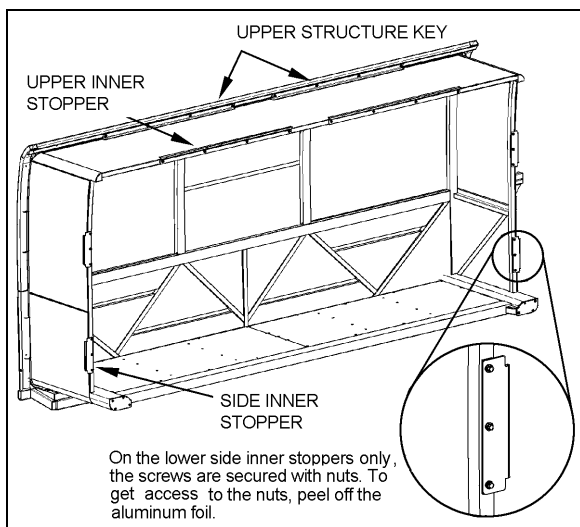
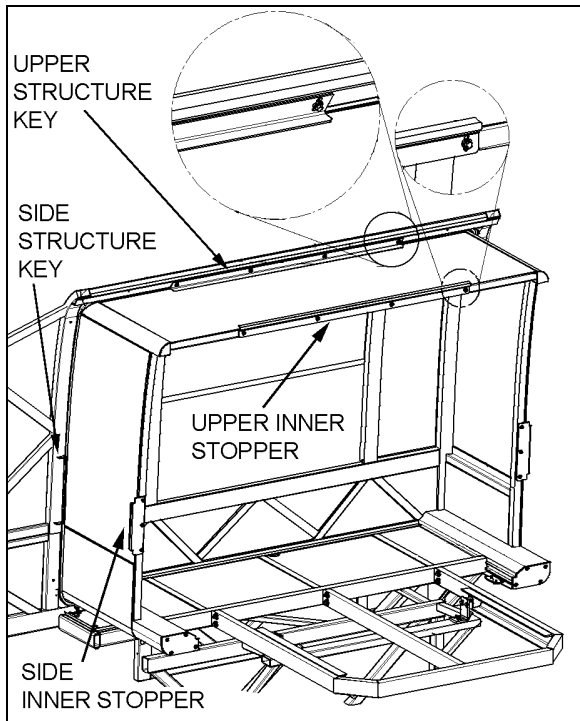

FIGURE 4: FRONT SLIDE-OUT
FIGURE 5: REAR SLIDE-OUT
The front slide-out is equipped with six inner stoppers laid out in the following way: two stoppers on the top horizontal member of the slide-out, and two stoppers on each vertical upright, while the rear slide-out is equipped with only three stoppers (Figure 4 & Figure 5). The upper inner stoppers are used to provide a support to position perpendicularly the slide-out with the vehicle structure.
The side inner stoppers are used to block the extension of the slide-out. They act as ultimate physical limits but take note that when the "out limit" sensors are properly adjusted, the slide-out extension stops before the side inner stoppers reach the side structure keys (Figure 4 & Figure 5).
2. Adjust the upper structure key and the upper inner stoppers according to FIGURE 4 with the seal deflated. When inflating, the seal presses the roof structure upward and at that moment, the upper inner stopper comes into contact with the upper structure key